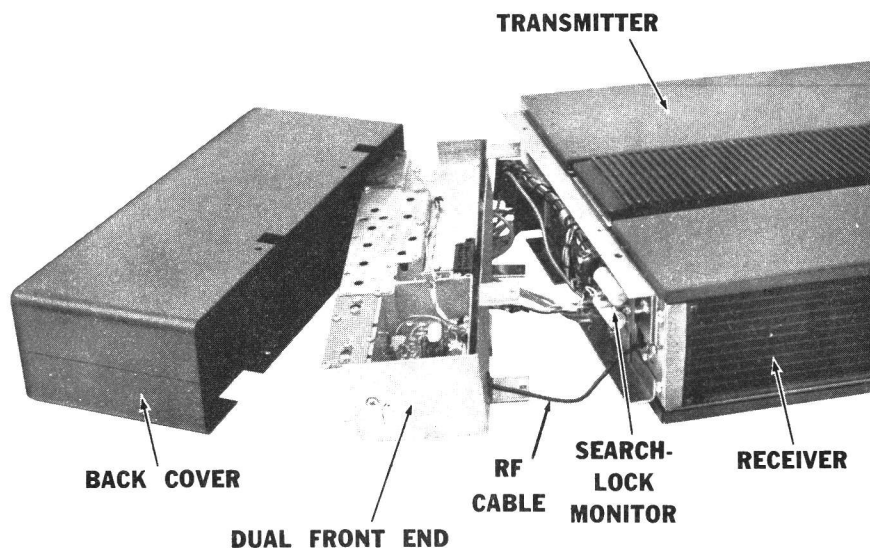

Figure 13 - Dual Front End Disassembly
2. Remove the four screws holding back cover to system frame. Slide cover back and lift off (see Figure 13).